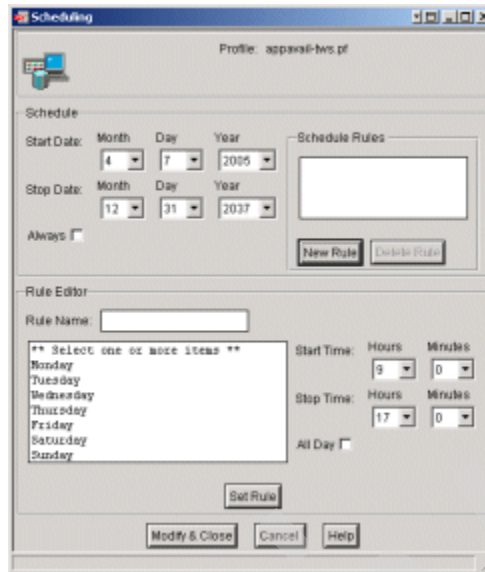

Figure 9-89 Enabling the Rule Editor
11. Select **New Rule** to enable the Rule Editor section as shown in Figure 9-89 on page 499.